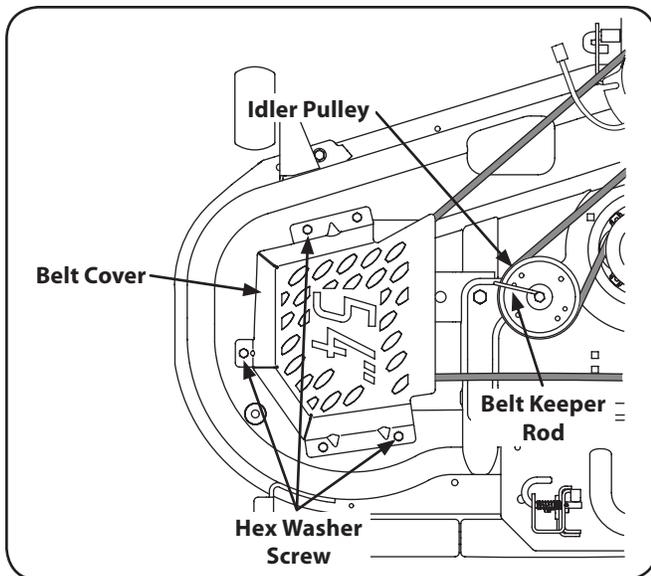

Figure 7-8
2. Remove the belt guards by removing the hex washer screws that fasten them to the deck. See Fig. 7-8.
3. Loosen, but do not remove the belt keeper rod on the pulley located near the back of the deck. See Fig. 7-8.